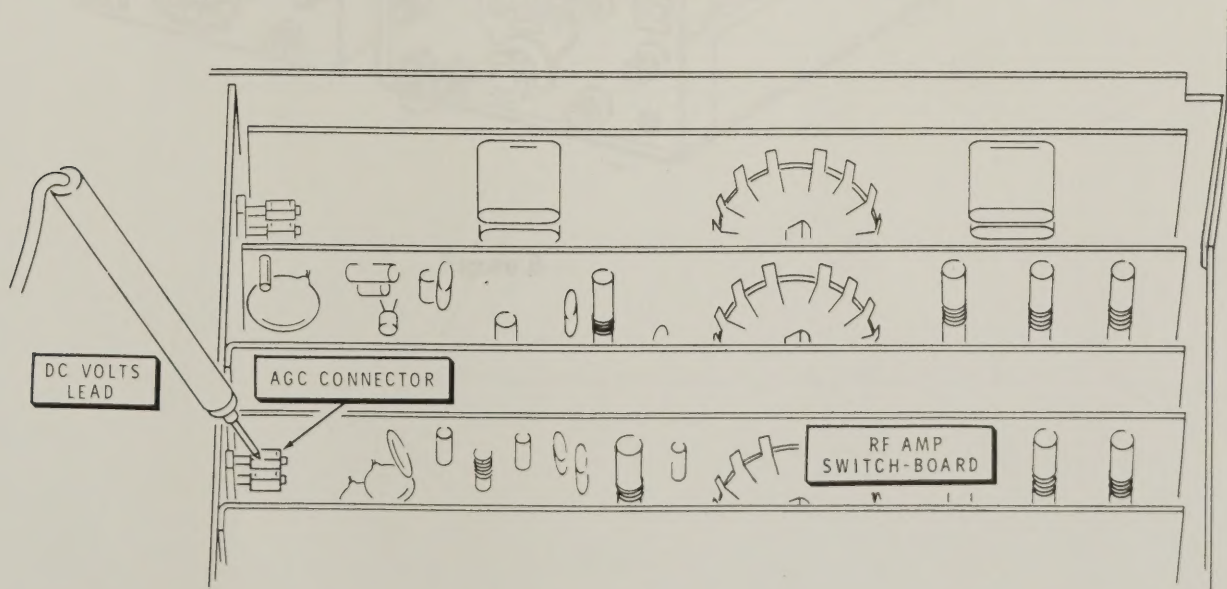

Figure 7
- (1) Refer to Figure 7 and position the meter dc volts lead against the AGC connector on the RF Amplifier Switch-Board.